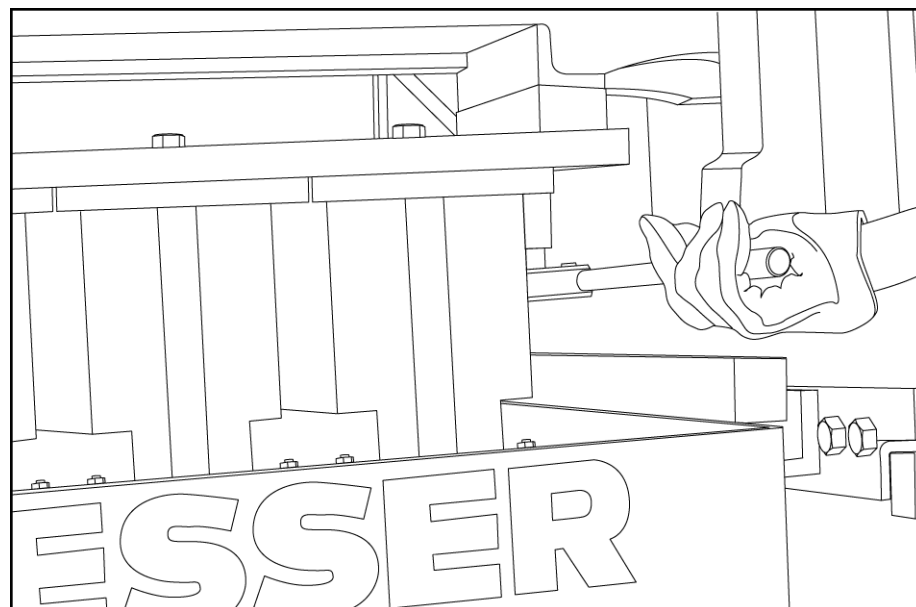

Figure 5.3 REMOVING BOLTS FROM BOLT STRIPPER HEAD PLATE
- 5.3.12 Remove bolts holding the head assembly (figure 5.3).